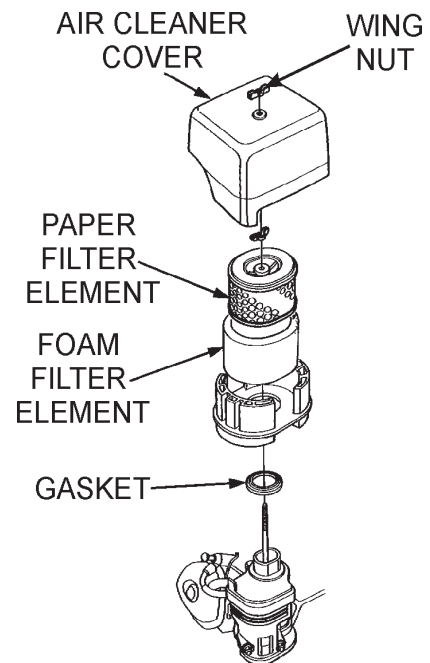

Figure 21. Engine Air Cleaner
- Remove the air cleaner cover and foam filter element as shown in Figure 21.
- Tap the paper filter element (Figure 21) several times on a hard surface to remove dirt, or blow compressed air [not exceeding 30 psi (207 kPa, 2.1 kgf/cm²)] through the filter element from the air cleaner case side. **NEVER** brush off dirt. Brushing will force dirt into the fibers. Replace the paper filter element if it is excessively dirty.